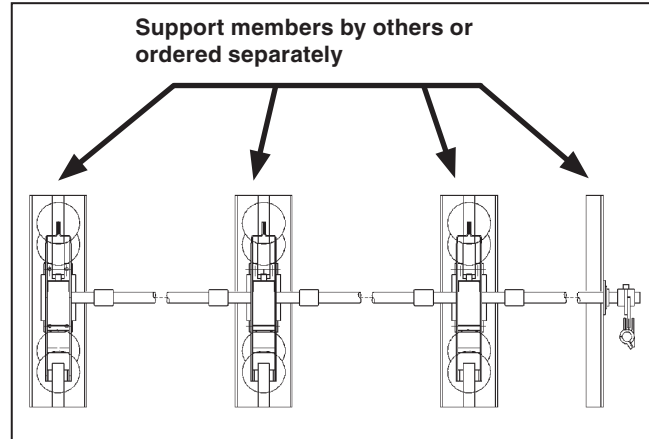

Figure 4. The support members.
STEP 3. Mount the support members (supplied by others or ordered separately) on the structure for the switch pole-units and the horizontal-pipe bearing. See Figure 4.